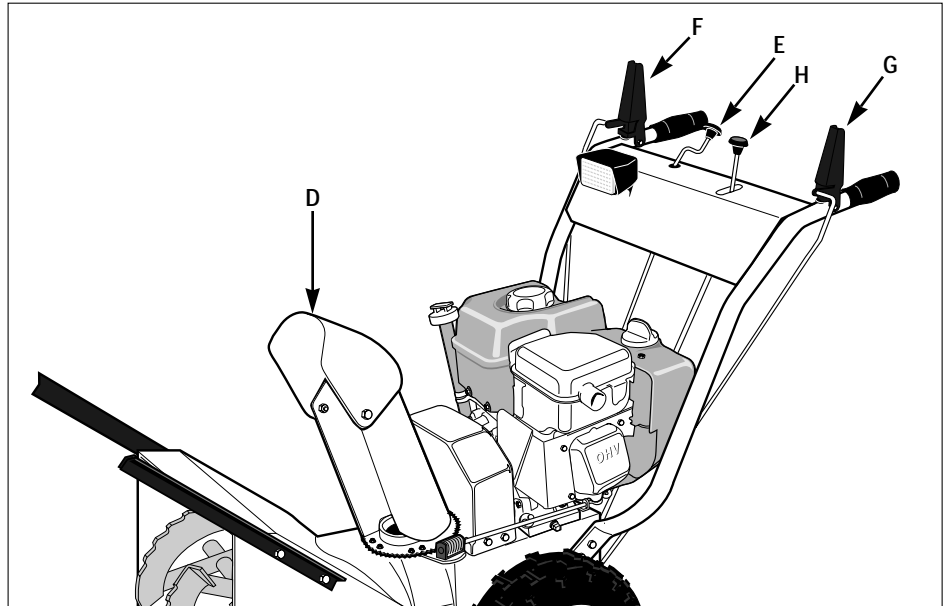

Figure 4-3
7. Use the lever on the Discharge Chute Deflector Cap (D, Figure 4-3) to adjust the deflector cap to the desired angle of discharge. Usually keep the angle of the deflector cap low, especially in windy conditions.
8. Rotate the Discharge Chute Control Rod (E, Figure 4-3) and check for binding. Leave the discharge chute pointing straight ahead.
9. Check the Auger Drive and Wheel Drive control levers (F and G, Figure 4-3) for freedom of movement.
2. Move the unit outside to a well-ventilated, level area. Put the Gear Shift Lever (H, Figure 4-3) into the desired gear position. Use the slowest (1) forward and reverse (R1) speed setting when first using the unit.
1. Release both control levers (F and G, Figure 4-3).
1. Release both control levers (F and G, Figure 4-3). Wait for the unit to come to a complete stop.
2. Adjust the discharge chute deflector cap (D, Figure 4-3) angle with adjustment lever. The deflector cap should usually be adjusted to a low angle, so it is not pointing at any persons, animals, buildings or vehicle, especially in windy conditions.
3. Engage the auger drive by squeezing the Auger Drive Control Lever (F, Figure 4-3) against the handlebar. The auger should immediately begin to rotate.
4. Disengage the auger drive by releasing the Auger Drive Control Lever (F). The auger should stop within five (5) seconds.
3. Move the Gear Shift Lever (H, Figure 4-3) into the first "1" gear position.
4. Engage wheel drive by squeezing the Wheel Drive Control Lever (G, Figure 4-3) against the handlebar. The unit should immediately move forward.
1. Release both the auger and wheel drive control levers (F and G, Figure 4-3). Wait for the unit to come to a complete stop.
2. Move the Gear Shift Lever (H, Figure 4-3) into the desired position.